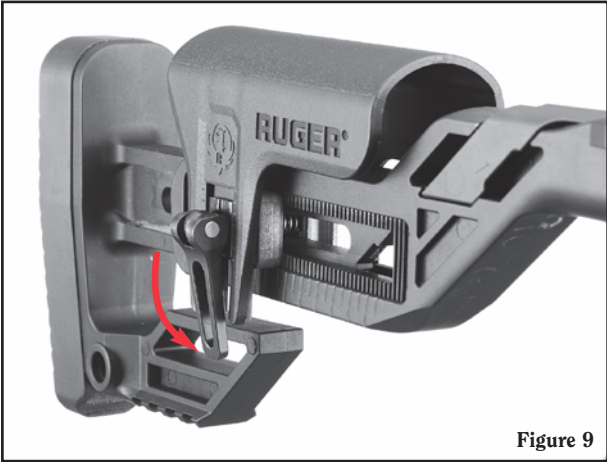

Figure 9
6. Once the desired length of pull is achieved, lock down the cam lever (see Figure 9).